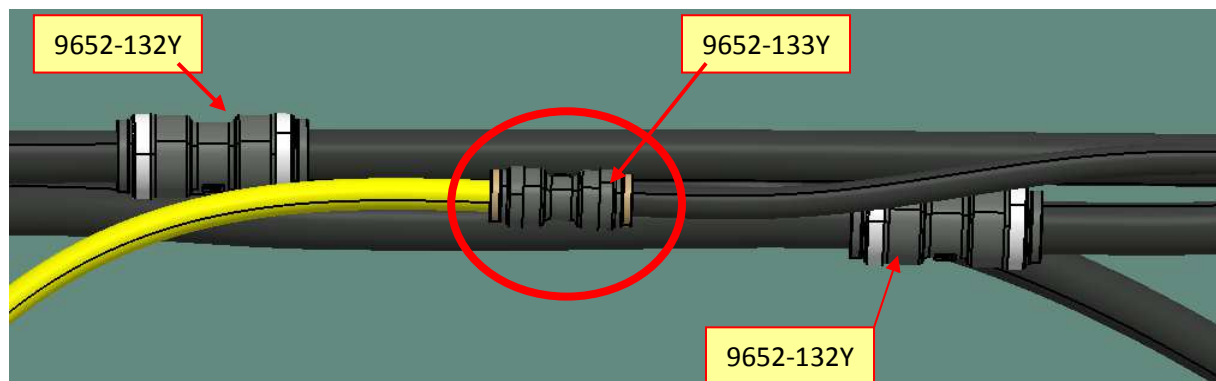

Figure-13
Hose 3: Install one side of 3/8" polyamide hose on port 2 of double check valve. Other side of hose must travel through middle chassis to front and must be connected to polyamide hose shown in Figure-13 marked with red circle.
*Connect the hoses by using adapter with the part number 9652-132Y shown in Figure-13